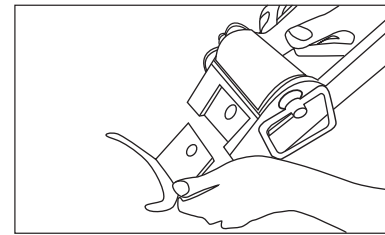

Fig 6
1. Remove 4- 1/2" x 1/2" hitch pin on front extension (not the pin with the roller), swing front extension forward and install conduit adapter (size 2, 2-1/2, 3, 3-1/2 and 4 inch) (Fig 6).